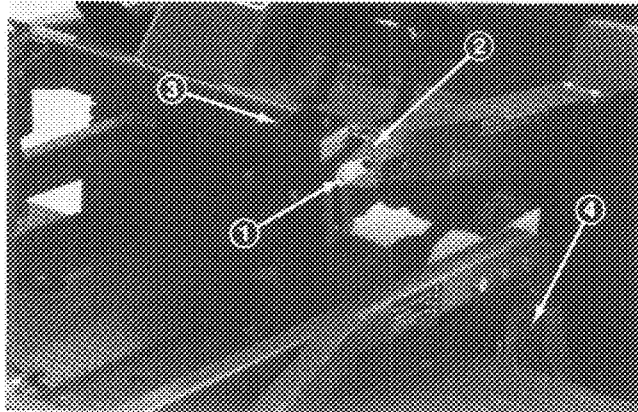

Figure 20
2. Disconnect counterbalance from traction unit, remove lock pins from brackets, separate spring tension assemblies from brackets and lay them down on the deck. Loosely secure lock pins to brackets to prevent losing them. (Fig. 20).
3. Lower cutting unit, remove pins (4) from height-of-cut brackets (Fig. 20).